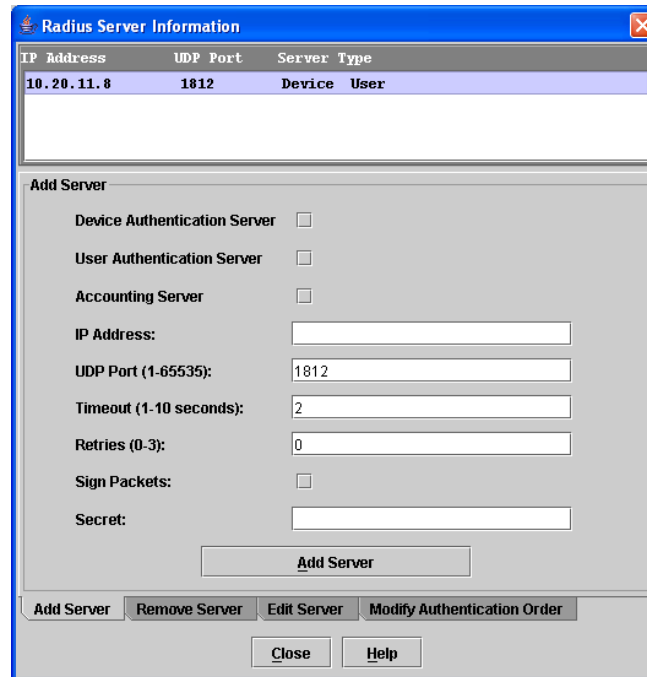

Figure 3-1. Add Server
2. In the Radius Server Information dialog, shown in Figure 3-1, click the **Add Server** tab.